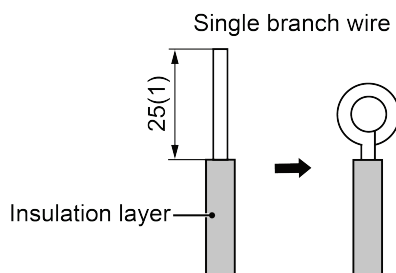

Fig 5.1.1
(1) Connection of Single Branch Line (shown in Fig 5.1.1).